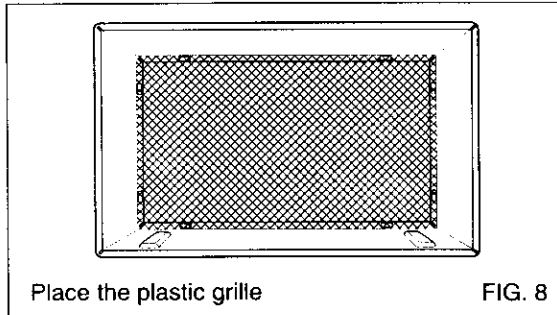

FIG. 8
- 6** Remove the backing from the support blocks and attach them to the inside of the wall sleeve as shown FIG 8. Slide the baffle into slots of the support blocks.